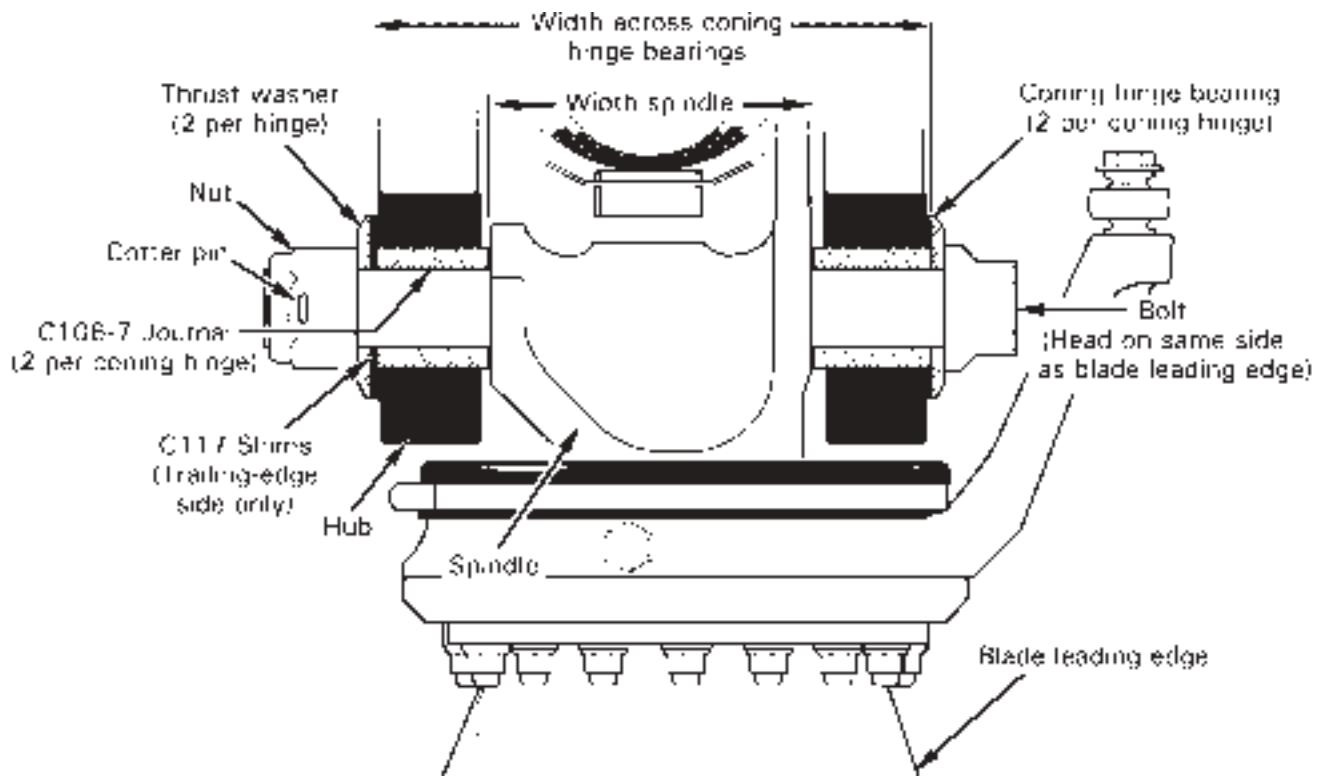

FIGURE 62-3 CONING HINGE (BLADE INSTALLATION)
3. Refer to Figure 62-3. Remove cotter pins and loosen nuts of blade coning hinge bolts so they are just finger tight.
3. Refer to Figure 62-3. With rotor hub level, insert journals into coning hinge bearings. Install thrust washer on coning hinge bolt.
Refer to R66 Illustrated Parts Catalog (IPC) Figure 62-3.